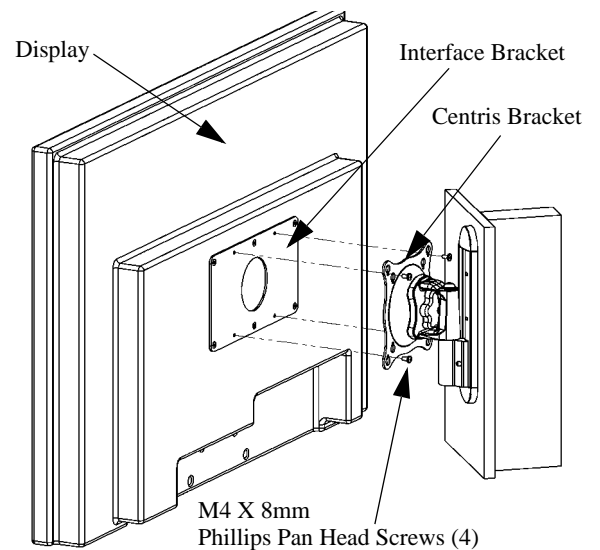

Figure 8. Attach Centris Bracket to Display
1. Start two M4 x 8mm Phillips pan head screws into the top two mounting holes of interface bracket (see figure 8).